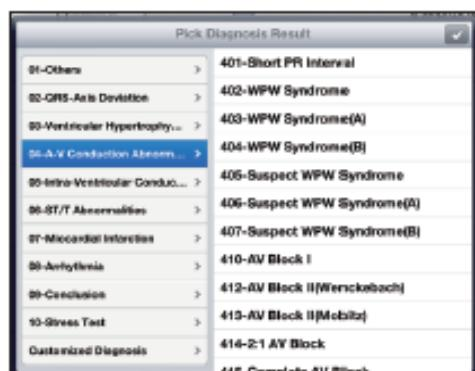

Fig. 5.7 Interpretations List
- ① **Interpretations list:** You can select the diagnostic terms from the list when you edit your ECG diagnosis (See Fig.5.7) .